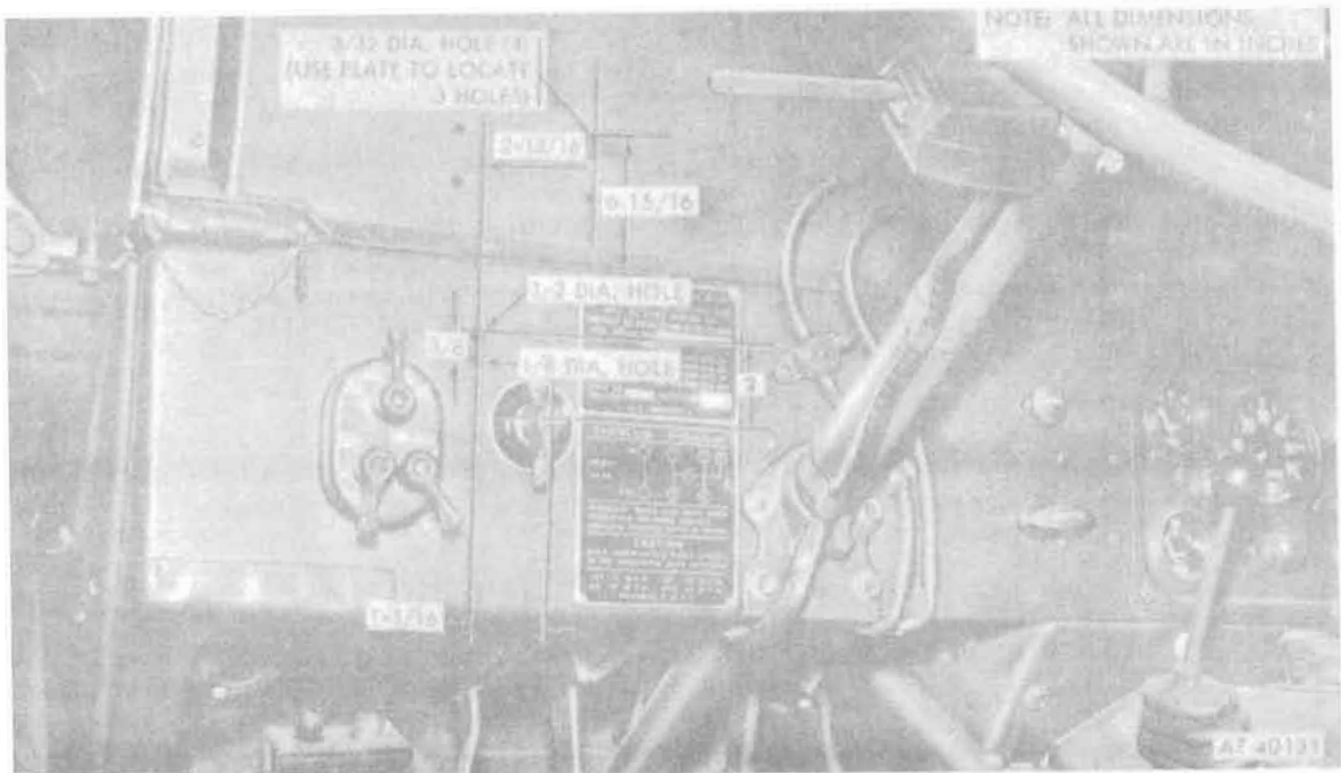

Figure 18-68. Left dash panel and windshield drilling.
h. Locate and drill one $1/2$ -inch diameter hole and one $1/8$ -inch diameter hole in left side of dash panel (fig. 18-68).
i. Locate and drill four $3/32$ -inch diameter holes in left side of windshield (fig. 18-68).